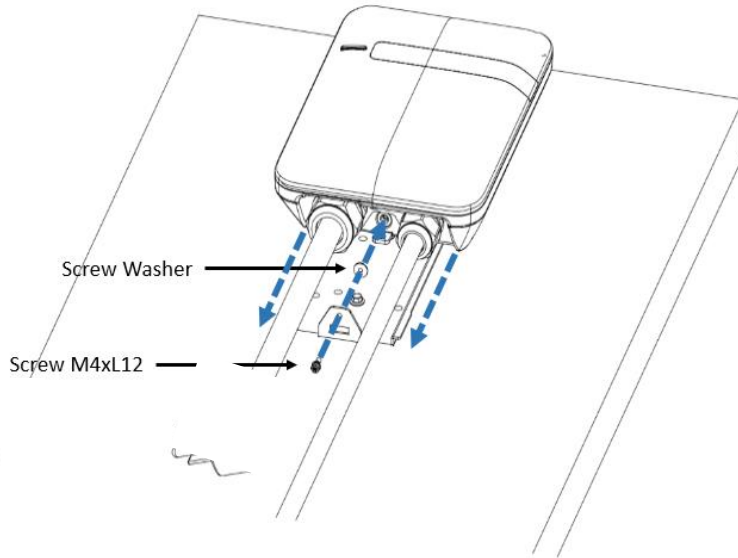

Figure 2-5 Screw locking position
- 5. Once the EVOREEL unit is installed, install the EVSE box onto its mounting bracket and secure the lock screw as shown in Figure 2-5.